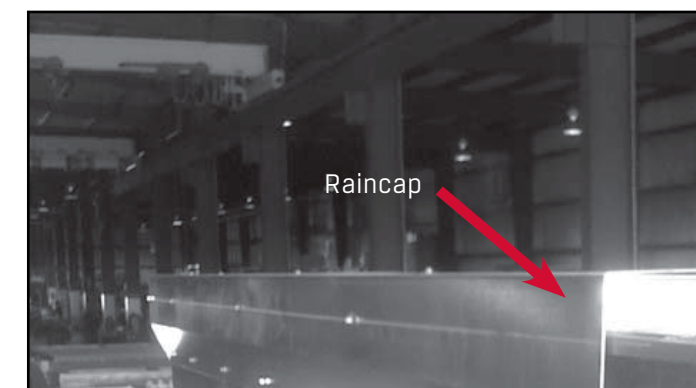

FIGURE 13.
- 20)** Finish high side of roof with rain cap. Screw in place similar to factory cap. (See **FIGURE 13**)